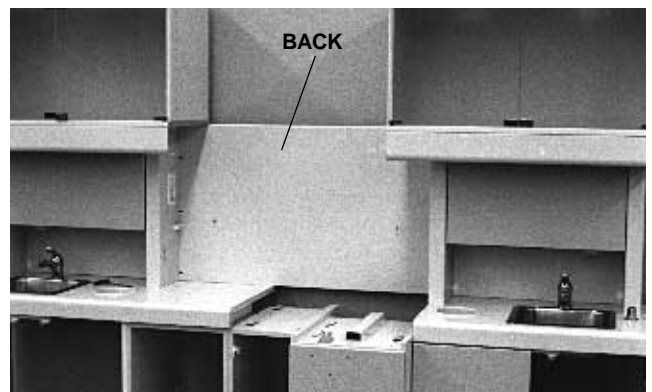

FIGURE 14
- Rotate the back to the proper horizontal orientation and pull it into the position shown in Figure 14.